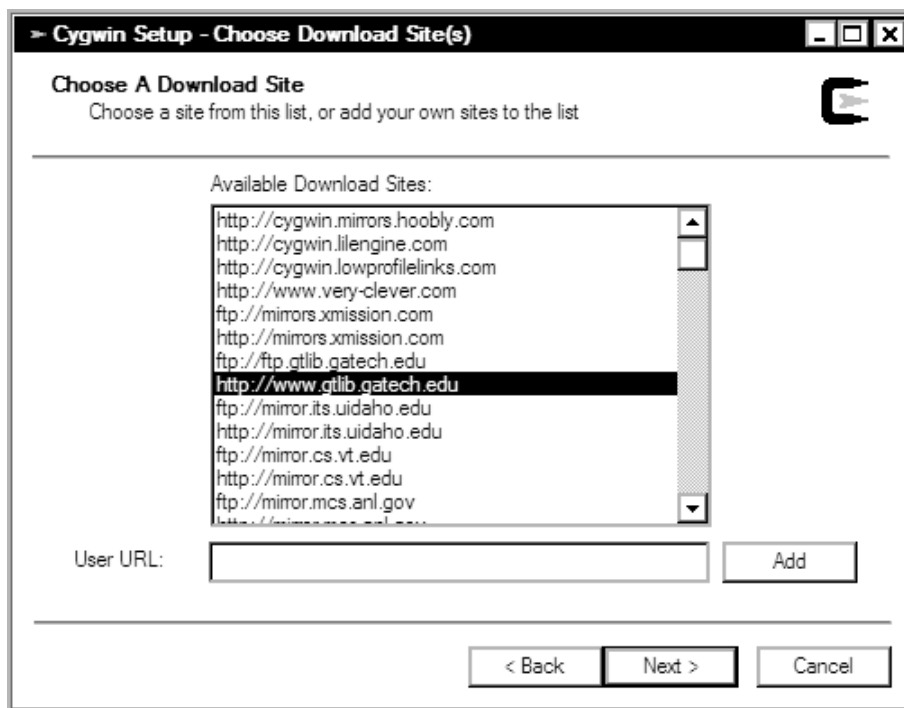

Figure 2-5. Cygwin installation: selecting a download site
8. Choose a download site (see Figure 2-5). The Cygwin project uses a collection of mirrors to host the binaries for installation, to conserve on bandwidth and give users around the world better download times. Pick a mirror close to you. I'm partial to .edu sites, because they typically have great bandwidth in the U.S.